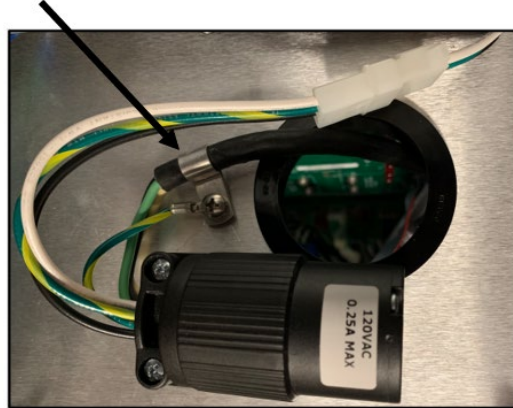

Figure 10 Power Supply with the Ground Screw Securing the P-clamp to the Interface Plate
- 3 Unscrew the ground screw from the interface plate and secure the AC receptacle and green-yellow striped ground wire to the interface plate using the p-clamp and ground screw as shown (see Figure 10 page 26).